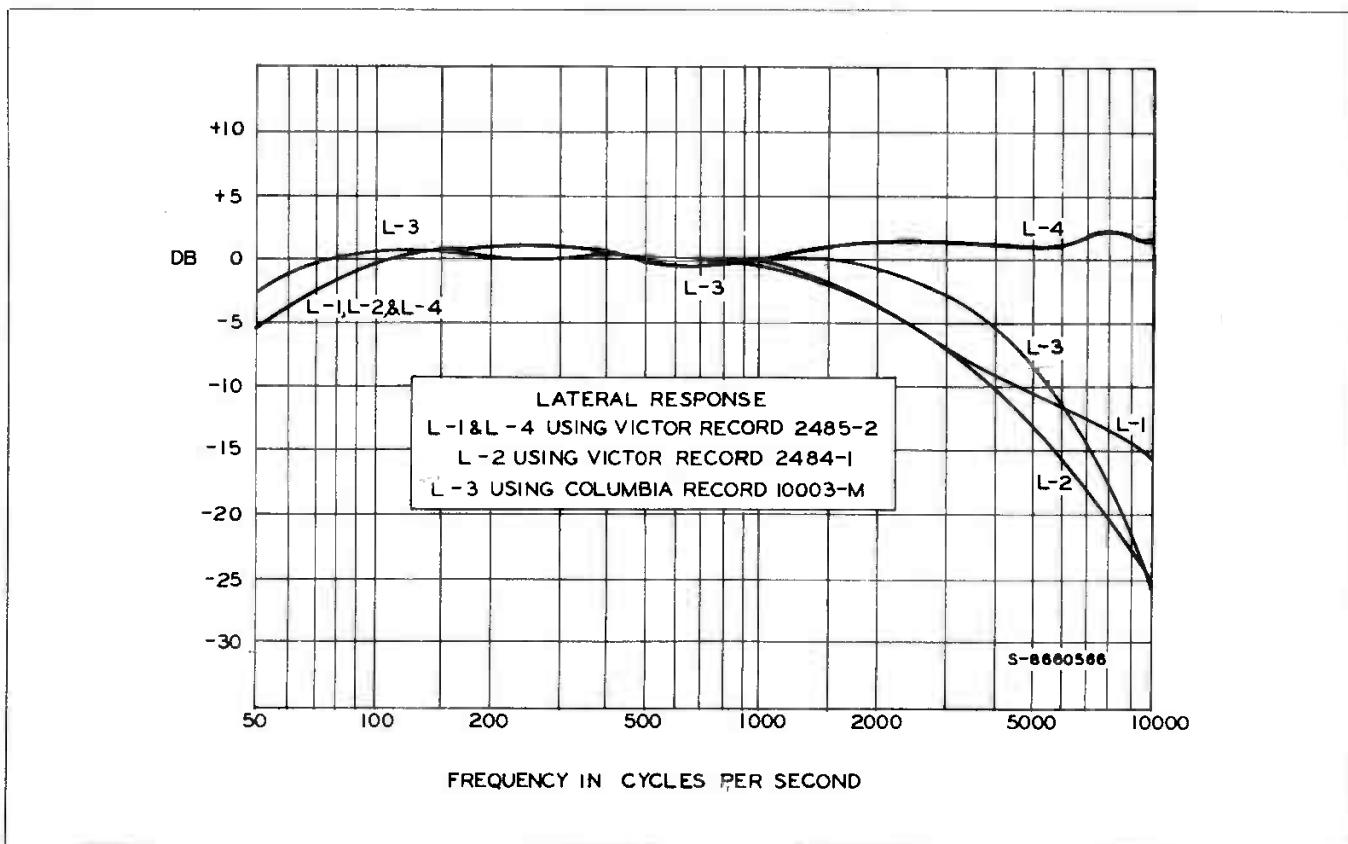
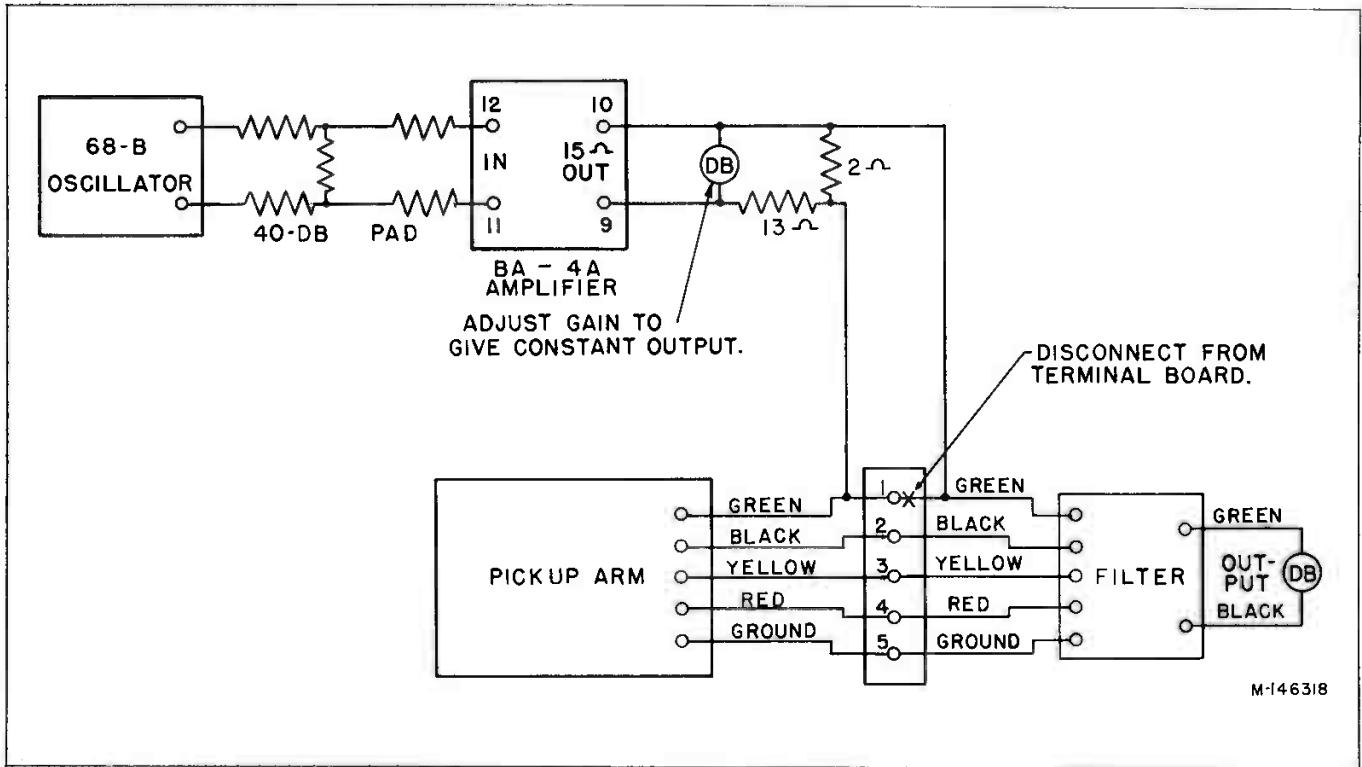

Figure 7—Frequency response for lateral switch positions using test records.
Figure 11—Circuit for checking frequency response with oscillator signal.
29. The filter switch dial has six positions, four for lateral reproducing and two for vertical reproducing. Refer to figures 7 through 10 for the various response curves using record and oscillator inputs. Figure 11 illustrates the connections to be made to secure the oscillator curves.